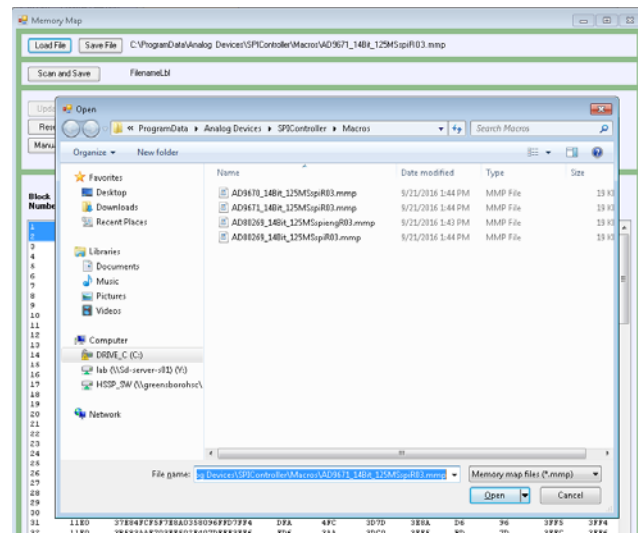

Figure 9. Memory File Select Dialog Box
- On the **Config** menu at the top of the **SPIController** window, click **Launch Memory Map Dialog**. This command starts the memory map shown in Figure 11, as well as a way to select prestored demodulation and decimation profiles. Click **Load File** to open the file **Open** dialog box, and select the **AD9671\_14Bit\_125MSspiR03.mmp** file to load the coefficient and profile memory onto the **AD9671** (see Figure 9).